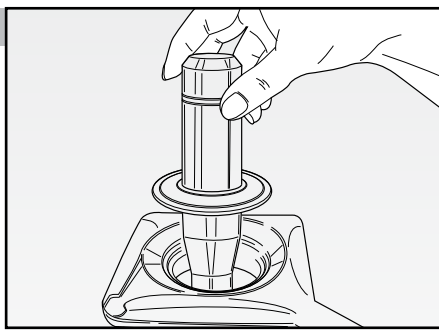

Fig. 5
- set the speed and the operating time using the apposite increase or decrease buttons (M). The selected parameters will be shown on the digital display (M).
- Press the ON-OFF button (L) that will become green and the appliance will run automatically. The digital display (M) will show the elapsed time.
- By selecting this function, it is possible to use also the pulse operation. Press and release the apposite "PULSE" button (P) to stop operation. For best results, keep pressed for a very short period (2/3 seconds).
- Press the ON-OFF button (L) to stop operation.
- During use, it is possible to add foods into the goblet, by lifting out the filler cap (A) after having switched off the appliance. Press inserted food using the apposite presser (R) - Fig. 5.